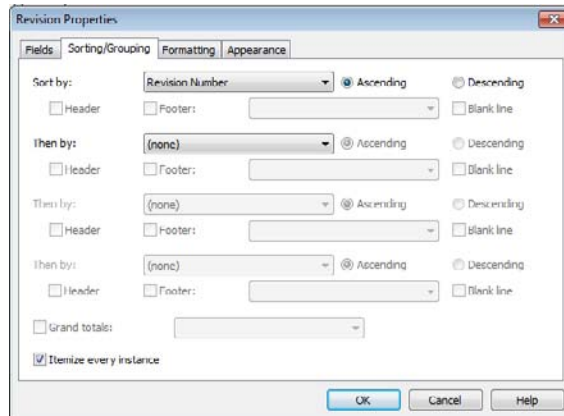

Figure 14.13
5. Click the Sorting/Grouping tab. Here, you can use parameters to sort/group your schedules. In this example, you will sort by revision number to keep your revisions organized. As shown in Figure 14.13, in the drop-down field next to Sort By, select Revision Number.